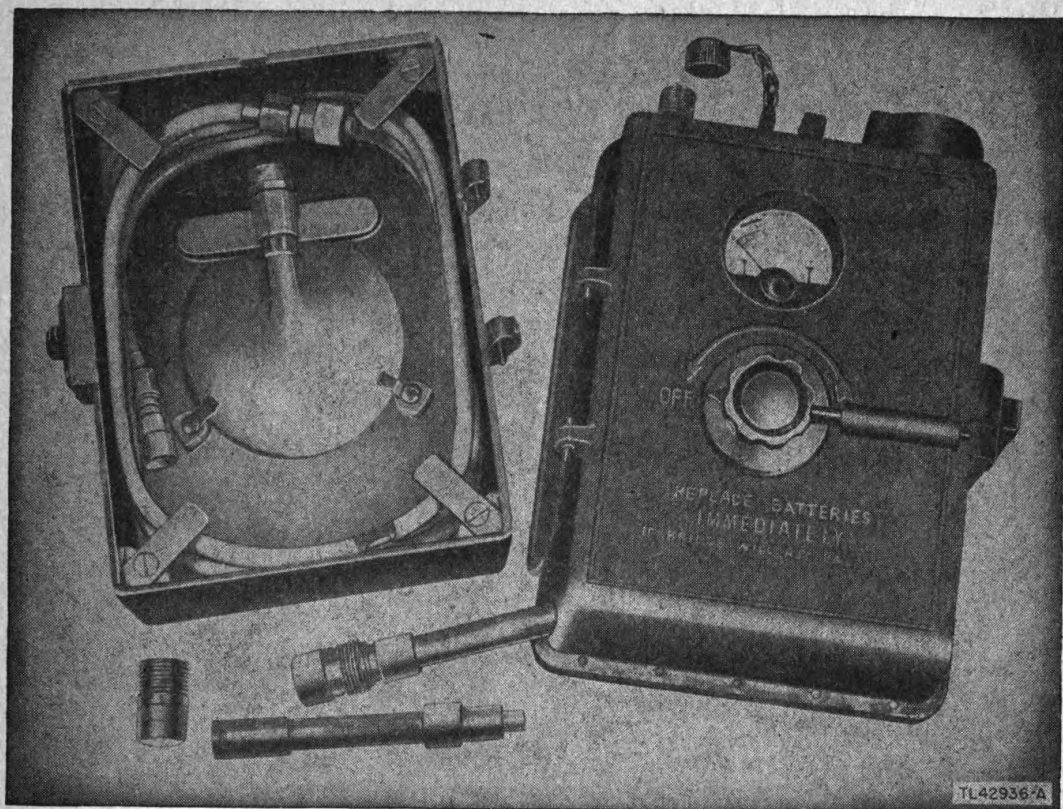

Figure 5. Power Meter TS-125/AP.
7. POWER METER TS-125/AP (fig. 5).